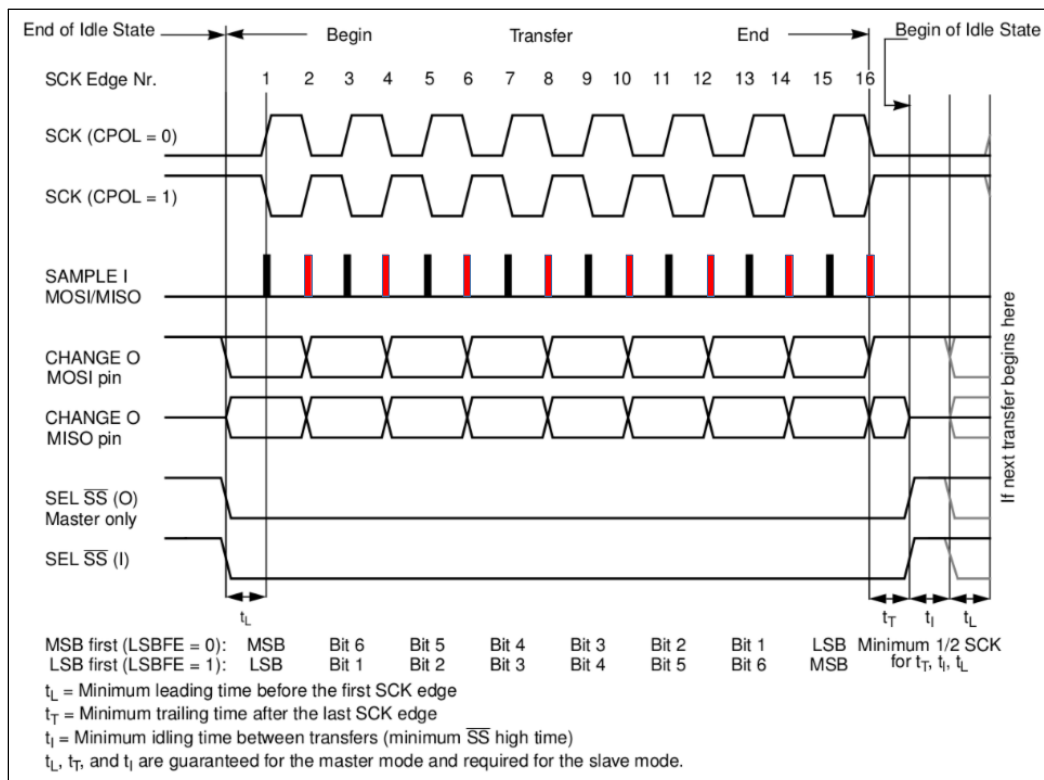
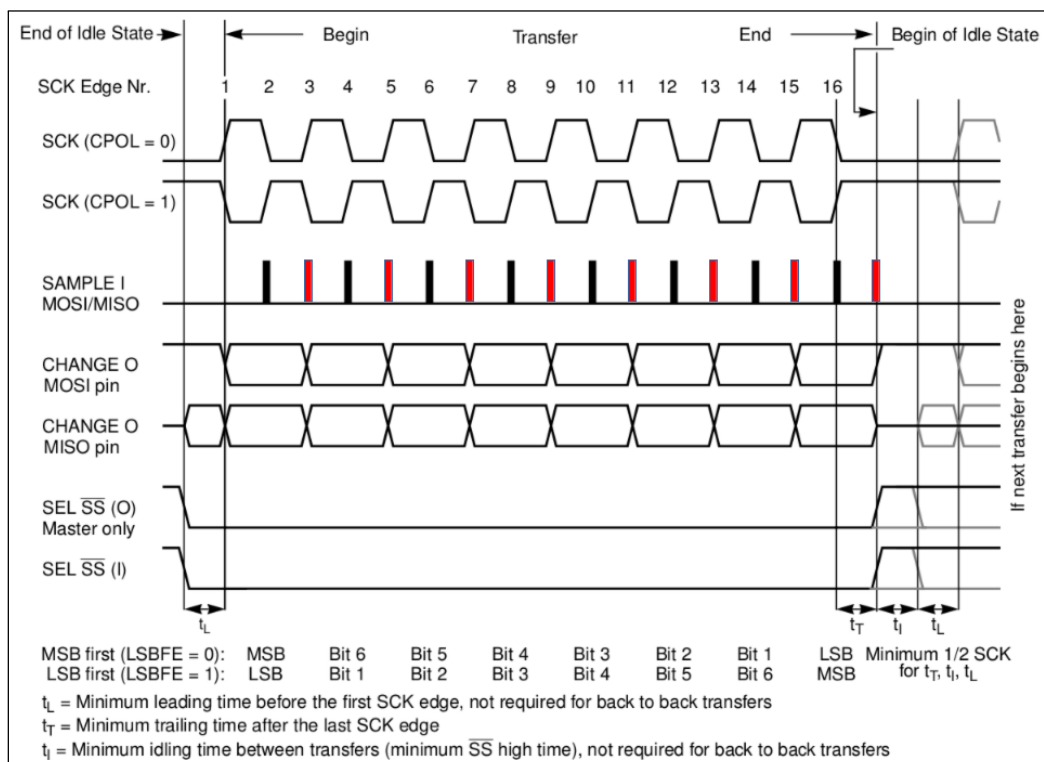

Figure 33.7-1. SPI Clock Mode 0 or 2
Figure 33.7-2. SPI Clock Mode 1 or 3
SPI protocol has four clock modes, i.e., modes 0~3. See Figure 33.7-1 and Figure 33.7-2.
- In master mode, the default compensation scheme delays SPI_CLK by half a cycle. Refer to Figure 33.7-1 and Figure 33.7-2. You can also switch to standard sampling via register configuration.